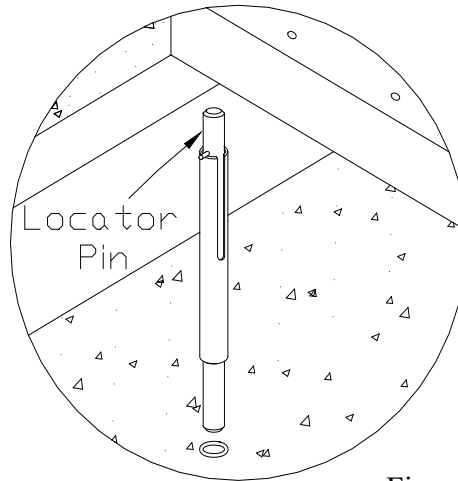

Figure 12
23. Move the *Portable Base* (A) to the desired location for use and lower the *Locator Pins* (P) to mark the appropriate placement for the *Floor Bushings* (R). See Figure 12.